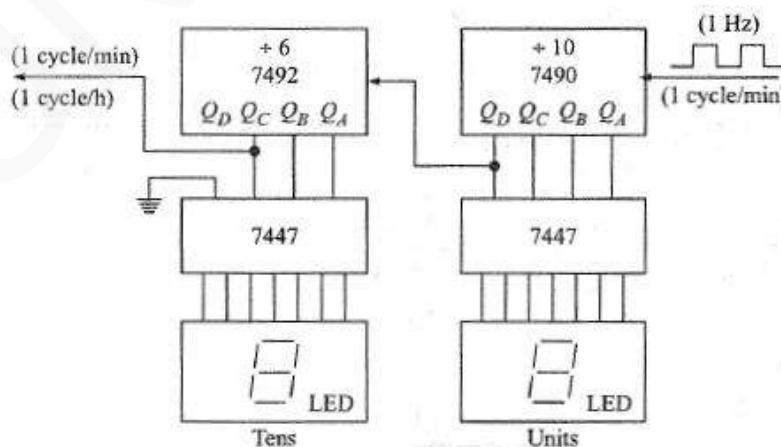

Figure 10.42: A 10×6 mod-60 counter with units and tens decoding
- In figure:10.42, the 7492 is connected as a divide-by-12 counter, but only outputs Q_A, Q_B & Q_C are used. In this fashion, the 7492 operates essentially as a divide-by-6 counter.